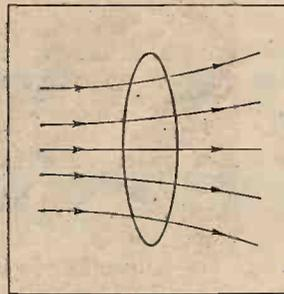

Fig. 3.—The magnetic field threading a conducting loop is opposed by the current which it induces in the loop.
Fig. 3.—Filter characteristics of the band pass unit. Curve A to be read in conjunction with the vertical scale on the left shows the coupling capacity necessary to give the optimum peak separation of 10 k.c. at any wavelength between 200 and 600 metres. Curve B to be used with the vertical scale on the right gives the peak separation at various wavelengths which will be obtained when using a fixed coupling capacity ( $C_m$ ) of 0.01 mfd.
circuit. The high-frequency resistance of the whole circuit is reduced, and the peaks not only become more pronounced but are more widely separated, therefore the sidebands which carry the high notes receive preferential treatment. Reaction with a band pass filter thus increases the high notes—an opposite effect to that usually experienced. By judicious use of reaction a small double-hump was found to exist when tuning in the National station with an anode-bend detector. As Fig. 3 shows, the peak separation is zero at 260 metres; evidently the double-hump has been extended to lower wavelengths by the use of reaction.
5GB, for instance, the peaks will be separated by 17.5 kc. (See Fig. 3, curve B, for 480 metres.)
In Fig. 3 are given the filter characteristics, showing (A) the coupling capacity necessary to give 10 kc. peak separation at the various wavelengths between 200 and 600 metres, and (B) the peak separation that is obtained with the 0.01 mfd. fixed coupling condenser ( $C_m$ ) used in the unit. Those readers who only listen to one station can choose their coupling condenser to give 10 kc. peak separation at the wavelength required. If the condenser of correct capacity is not on the market, then use must be made of two condensers in series or in parallel.
Suppose that we place a single closed loop of wire in an alternating magnetic field, as depicted in Fig. 3. The elementary laws of electromagnetic induction can be applied to such a case, and show that the result will be the flow of an induced current in the ring, which, in turn, produces a secondary mag-